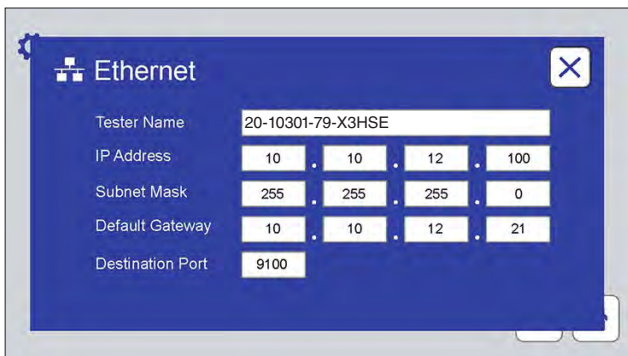
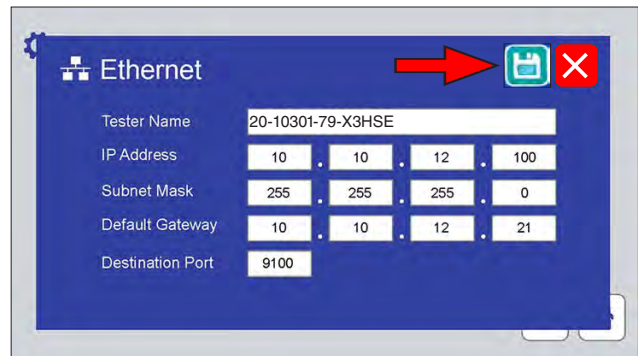

Figure 11.7q: This screen displays and provides text boxes to enter ethernet connection parameters.
Figure 11.7t: Touch the save icon to save any changes to Ethernet parameters.
- o Ethernet (Figure 11.7q through Figure 11.7t).